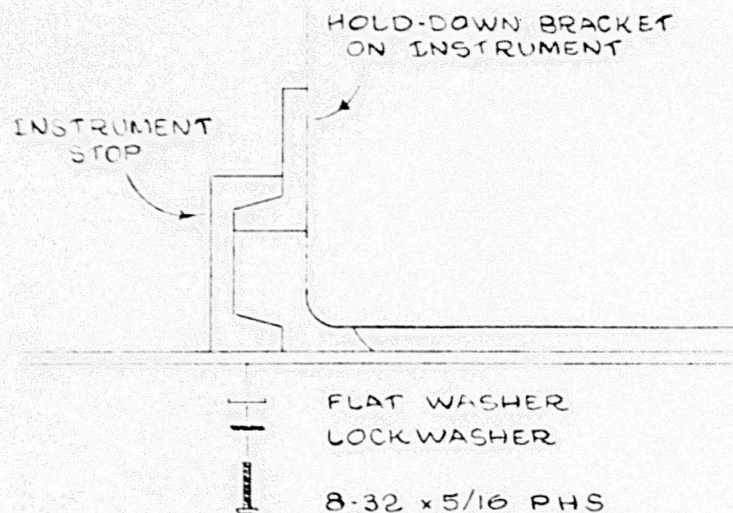

FIG. 5
- () 9. Place the instrument stop (from kit) on the cradle so that it meshes with the hold-down bracket on the instrument (see Fig. 5). If necessary, the hold-down bracket may be adjusted up or down.
- () 12. Mount the stop, using the 8-32 x 5/16 PHS screws, flat washers and lock-washers from the kit (see Fig. 5).